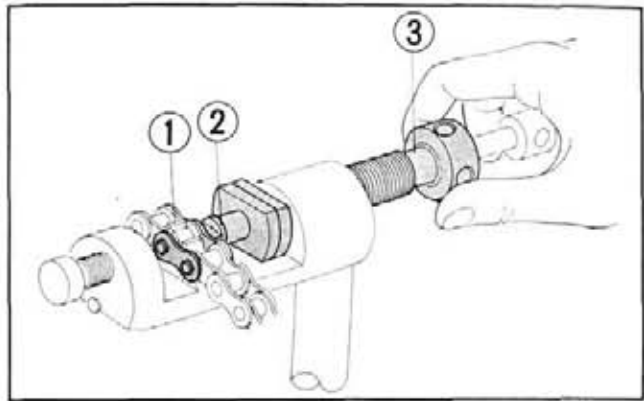

Fig. 20-42 ① Chain holder
1. Position drive chain joint portion to be staked on chain holder in place and also place wedge holder between chain holder and pressure holder as shown in Fig. 20-42. So that tip of wedge is in line with center of joint pin.